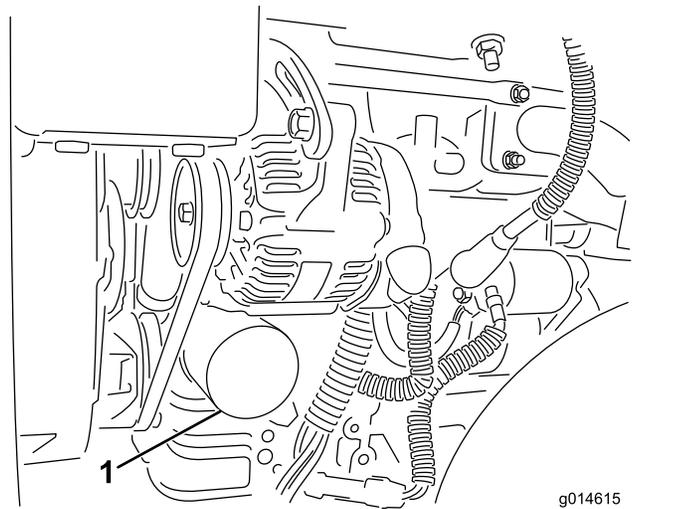

Figure 46
2. Remove the oil filter (Figure 46). Apply a light coat of clean oil to the new filter gasket.